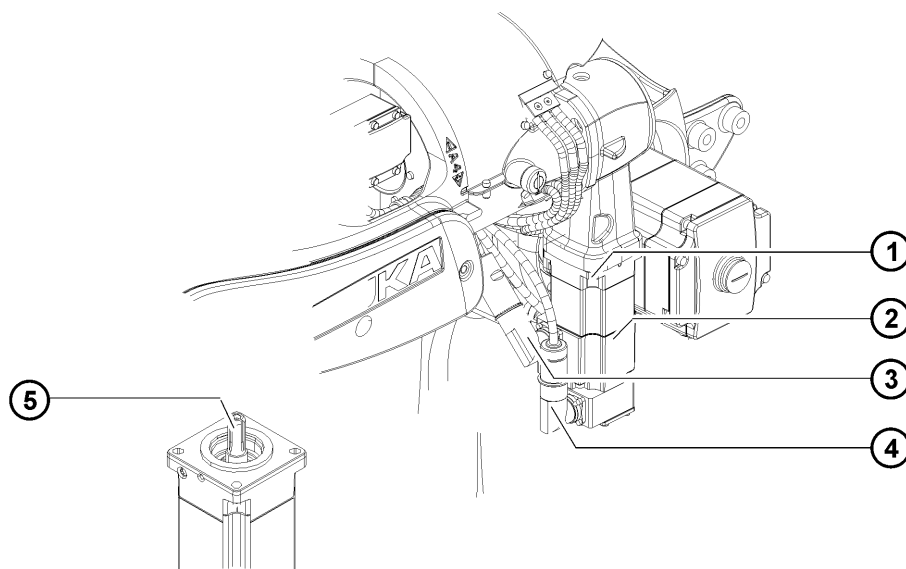

Fig. 11-8: Installing motor A4
2. Clean the tothing (>>> Fig. 11-8) and apply a thin but continuous coat of Microlube GL 261.